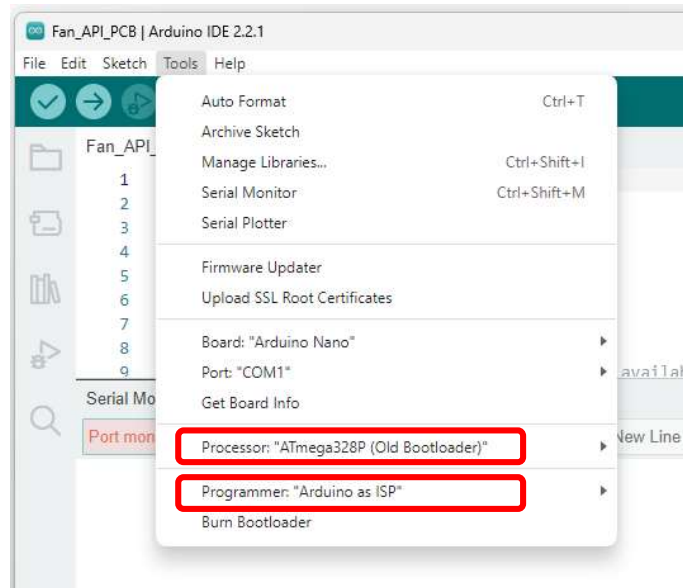

Figure 1.11 Settings for Processor and Programmer
- Go to *Tools >> Processors* and select “*ATmega328P (Old Bootloader)*” as shown in *Figure 1.11*. Some modules require the new bootloader. In that case, select “*ATmega328P*” as the processor. You will find out the bootloader you need in a later step when uploading the sketch to your module.
- Go to *Tools >> Programmer* and select *Arduino as ISP* as shown in *Figure 1.11*.